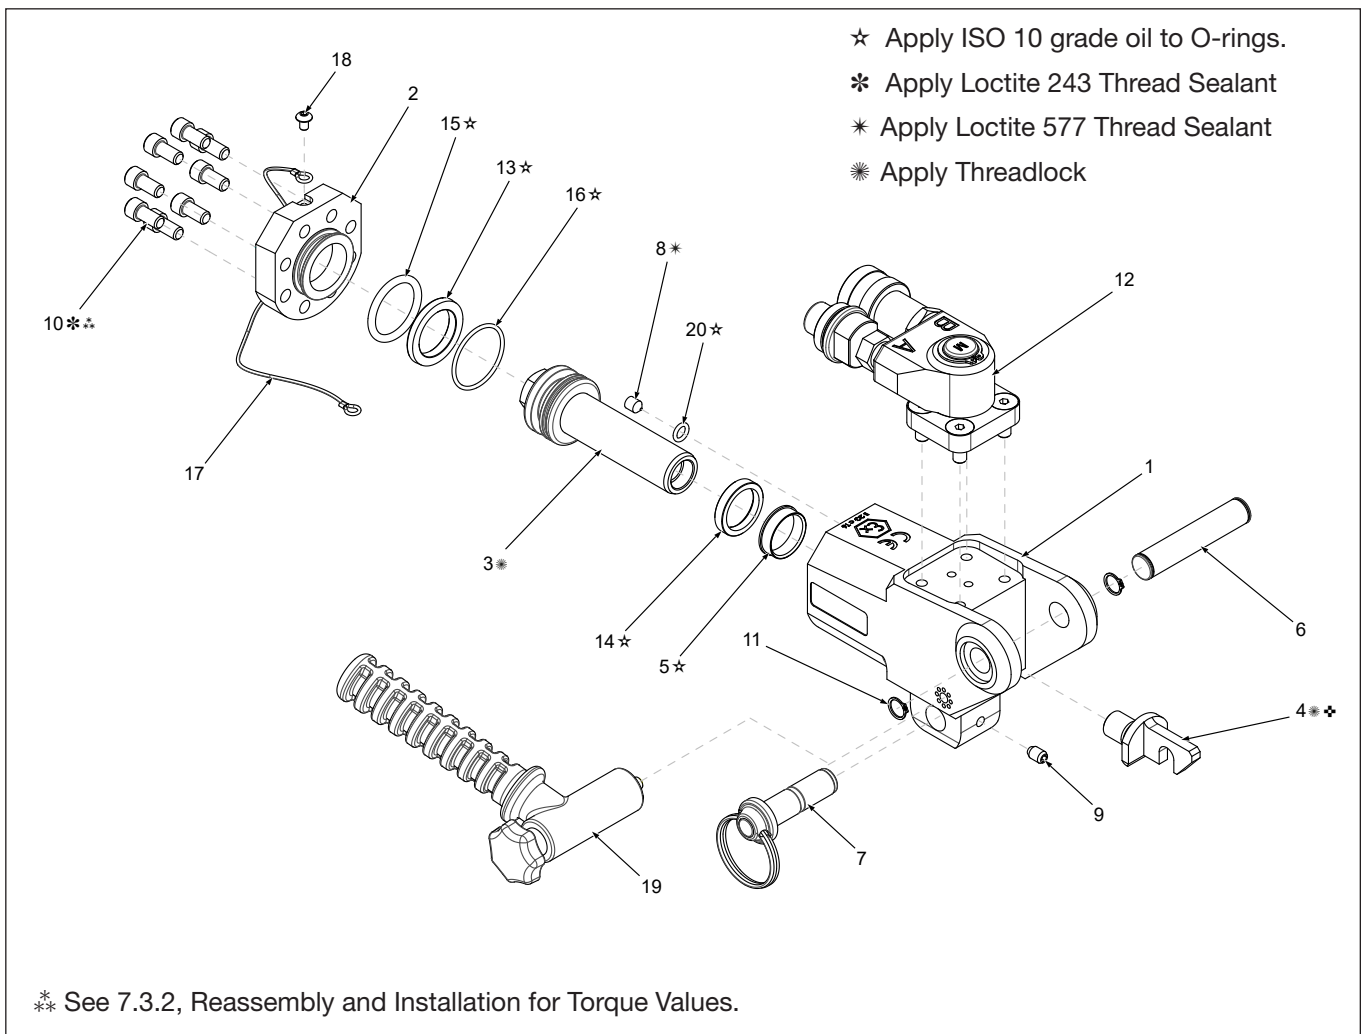

Figure 19: Exploded HMT
## 7.3.2 HMT Drive Unit (Fig. 19)
**NOTICE** Be sure that the ratchet, drive plate, pawl, pawl spring, square drive, access plugs, and compression springs are correctly installed, in the reverse order of disassembly. Failure to install these parts correctly will result in component damage. Refer to figures 19 and 20.